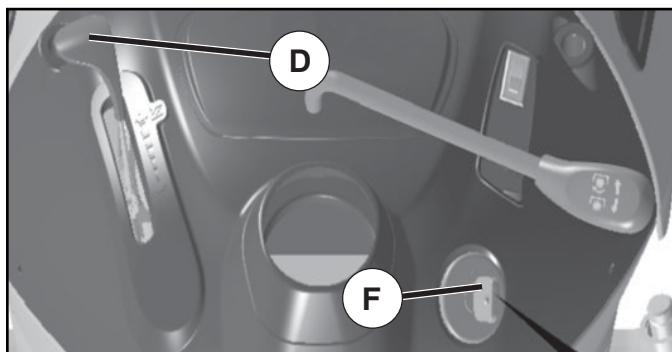

Fig. 17
- Move throttle control (D) between half and full speed (fast) position.
- Turn ignition key (F) to "STOP" position and remove key. Always remove key when leaving tractor to prevent unauthorized use.
### TO USE THROTTLE CONTROL (D) (See Fig. 17)